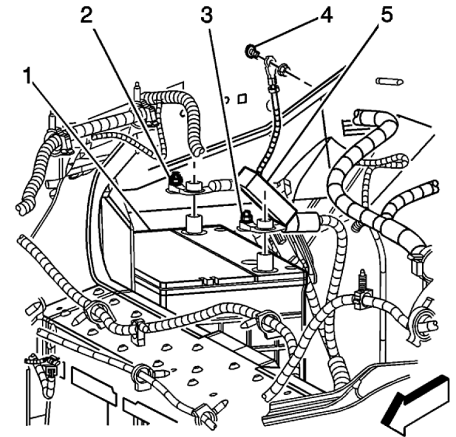

Fig. 3 Battery positive cable
9. Open battery positive cable cover (5), **Fig. 3**.
10. Loosen battery positive cable nut (3), **Fig. 3**.